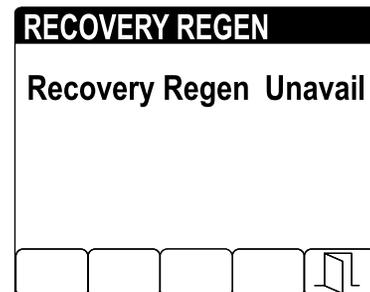

Figure 53
- If the engine computer has not requested a recovery regeneration and you select the RECOVERY REGEN option (Figure 53), Recovery Regen screen locks (unavailable).